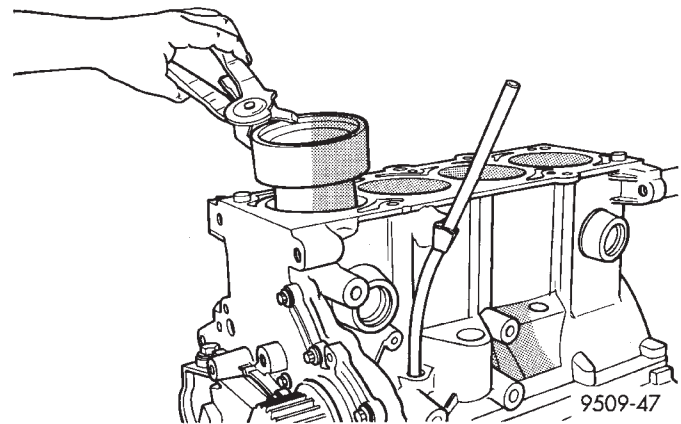

Fig. 96 Installing Piston
- (3) Immerse the piston head and rings in clean engine oil, slide the ring compressor, over the piston (Fig. 96). **Be sure position of rings does not change during this operation.**